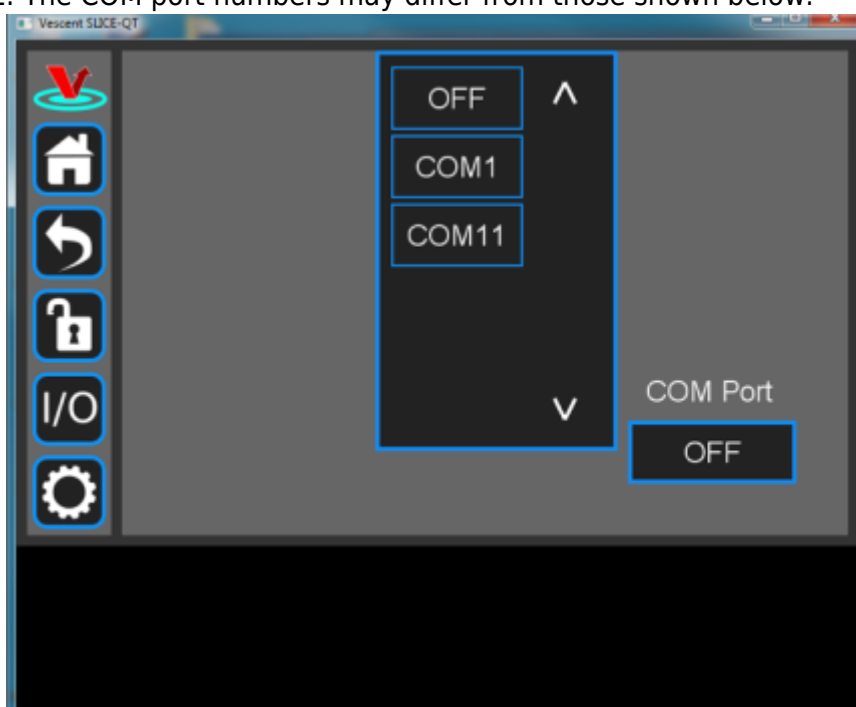

Fig. 39: COM port selection
7. Click on the OFF button below COM Port. You should see a menu similar to the one shown figure 39. NOTE: The COM port numbers may differ from those shown below.